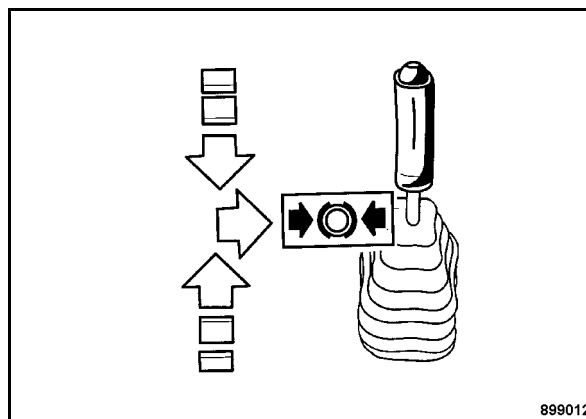

Fig. 27
- Check, whether the travel lever (Fig. 27) is locked to the right in braking position.